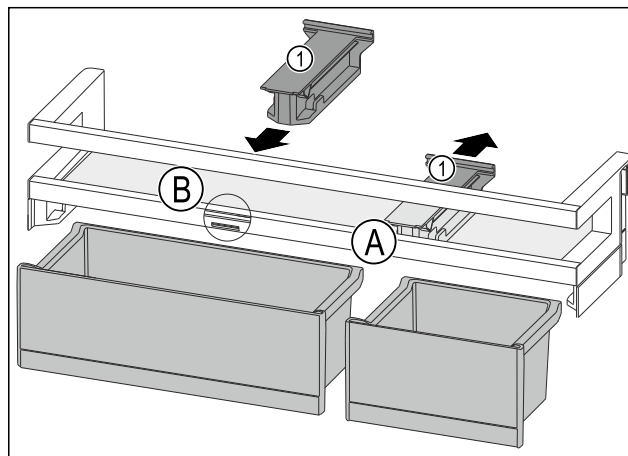

Fig. 130
- Pull off the retaining part Fig. 130 (1) in position Fig. 130 (A) downward.
- Insert the retaining part Fig. 130 (1) in position Fig. 130 (B).